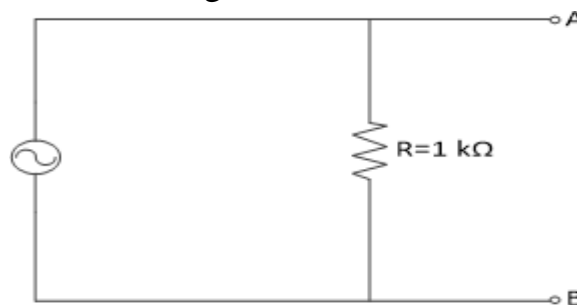

Figure 7. Simple AC Circuit.
1. Connect the circuit as shown in Figure 7.
5. To demonstrate how the oscilloscope can be used to measure current, connect the circuit as shown in Figure 7.